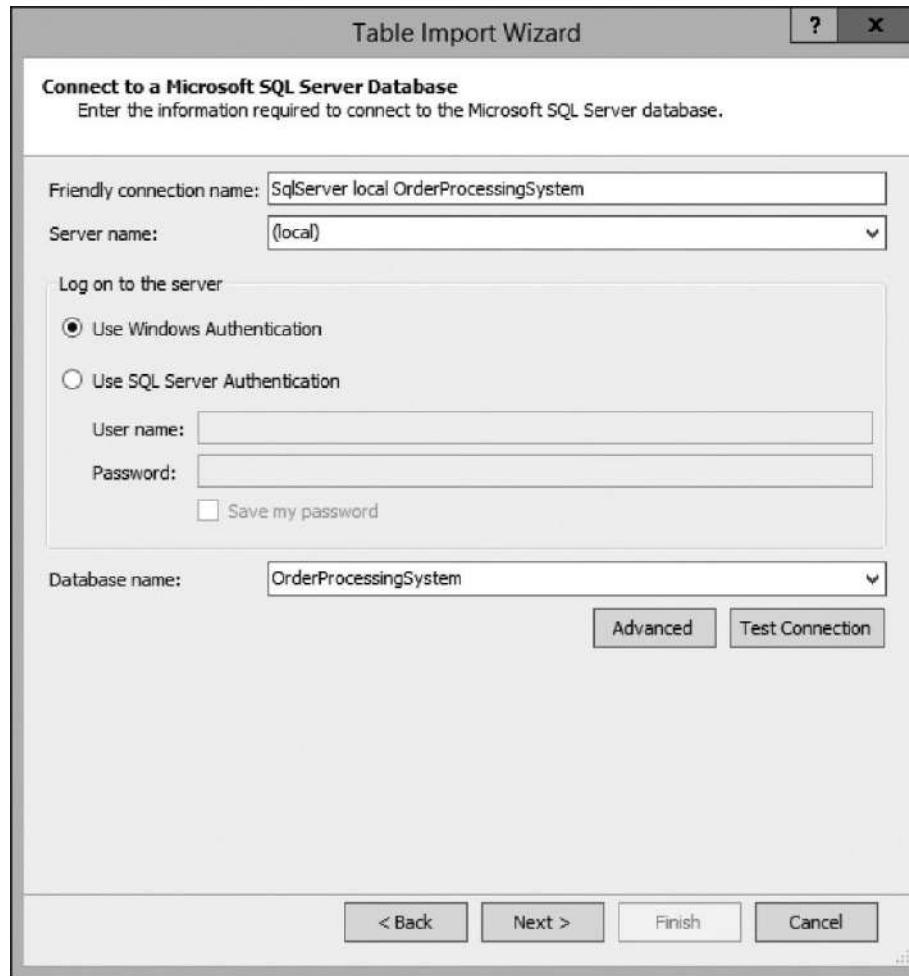

Figure 9-4 The Connect to a Microsoft SQL Server Database page of the Table Import Wizard
6. Select OrderProcessingSystem from the Database name drop-down list. The Connect to a Microsoft SQL Server Database page of the wizard should appear, as shown in Figure 9-4 .